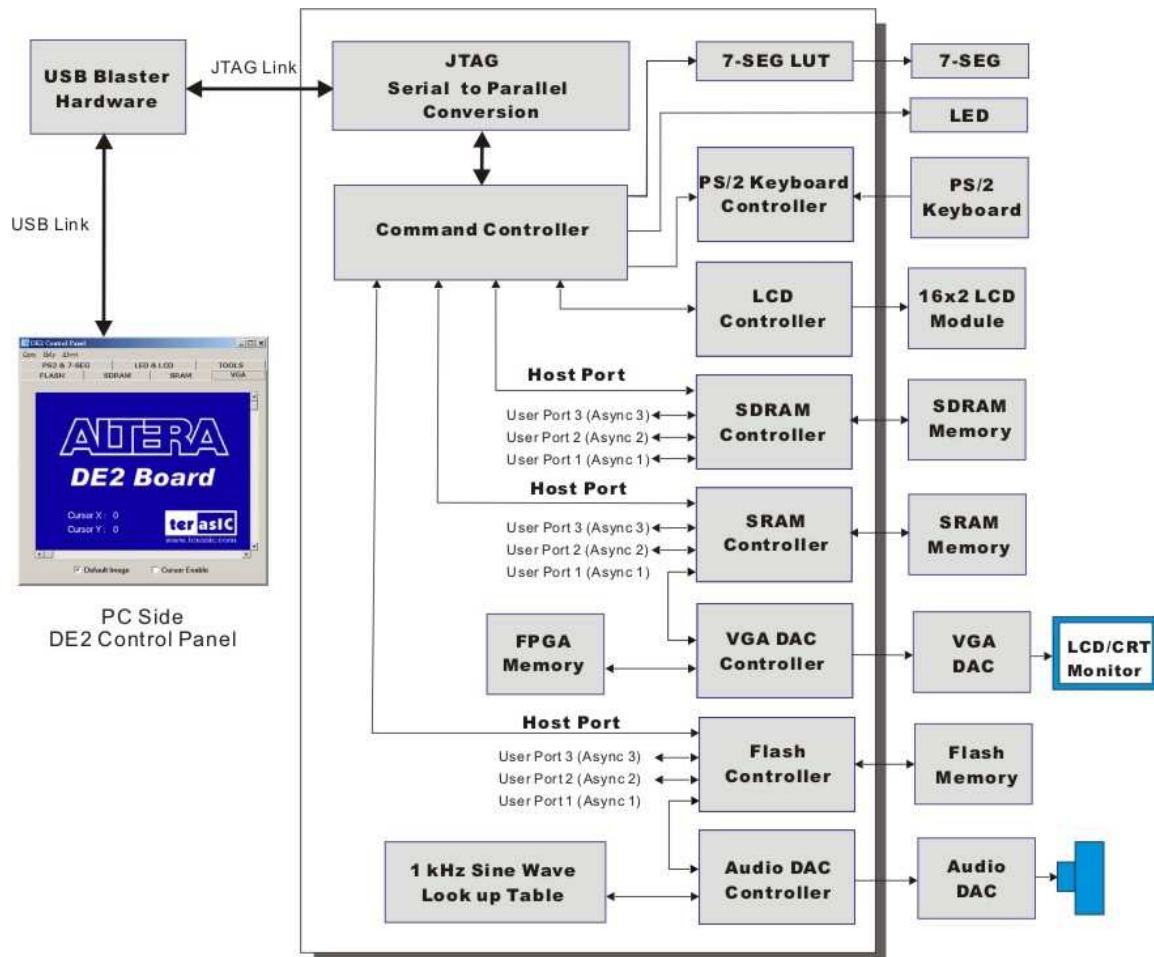

Figure 3.7. The DE2 Control Panel block diagram.
To run the Control Panel, the user must first set it up as explained in Section 3.1. Figure 3.7 depicts the structure of the Control Panel. Each input/output device is controlled by a controller instantiated in the FPGA chip. The communication with the PC is done via the USB Blaster link. A Command Controller circuit interprets the commands received from the PC and performs the appropriate actions. The SDRAM, SRAM, and Flash Memory controllers have three user-selectable asynchronous ports in addition to the Host port that provides a link with the Command Controller. The connection between the VGA DAC Controller and the FPGA memory allows displaying of the default image shown on the left side of the figure, which is stored in an M4K block in the Cyclone II chip. The connection between the Audio DAC Controller and a lookup table in the FPGA is used to produce a test audio signal of 1 kHz.
3. Select the Asynchronous 1 port for the Flash Multiplexer and then click on the **Configure** button to activate the port. You need to click the Configure button to enable the connection from the Flash Memory to the Asynchronous Port 1 of the Flash Controller (indicated in Figure 3.7).
6. Note that the Asynchronous Port 1 is connected to the Audio DAC part, as shown in Figure 3.7. Once you selected Asynchronous Port 1 and clicked the Configure button, the Audio DAC Controller will communicate with the Flash memory directly. In our example, the *AUDIO\_DAC* Verilog module defines a circuit that reads the contents of the Flash memory